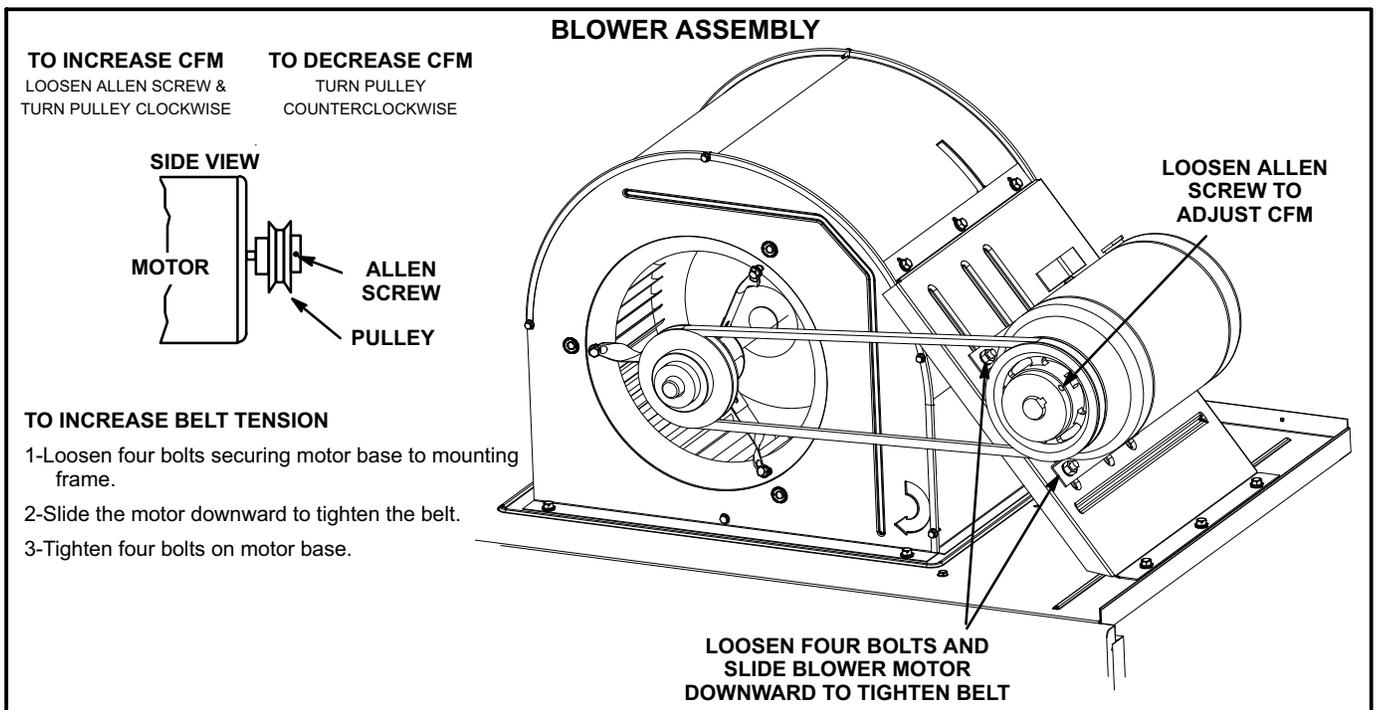

FIGURE 10
The blower RPM can be adjusted at the motor pulley. Loosen Allen screw and turn adjustable pulley clockwise in 1/2-turn increments to increase CFM. Turn counterclockwise in 1/2-turn increments to decrease CFM. See figure 10. Do not exceed minimum and maximum number of pulley turns as shown in table 4.
- 1- Loosen four bolts securing motor base to mounting frame. See figure 10.